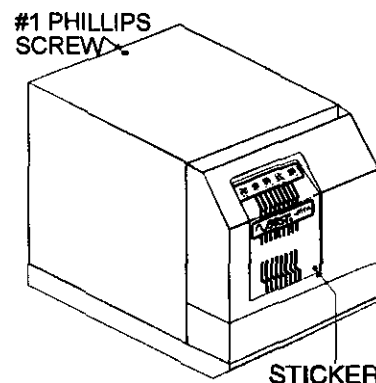

Figure 1
- At the **front** of the UPS, **tighten** the screw in the lower right corner of the front panel. Cover the screw with the round sticker you removed. (See Figure 1 on page 2.)
- Put the screw back in the top of the UPS and tighten the screw. (See Figure 1 on page 2.)
102. Remove the #1 Phillips screw on the top of the UPS. (See Figure 1.)
103. Next, **find** the sticker in the lower right corner of the front panel with the BEST logo. Remove the sticker, and loosen the #2 Phillips screw behind the sticker 5 or 6 turns to loosen (but not remove) it. Save the sticker. (See Figure 1.)